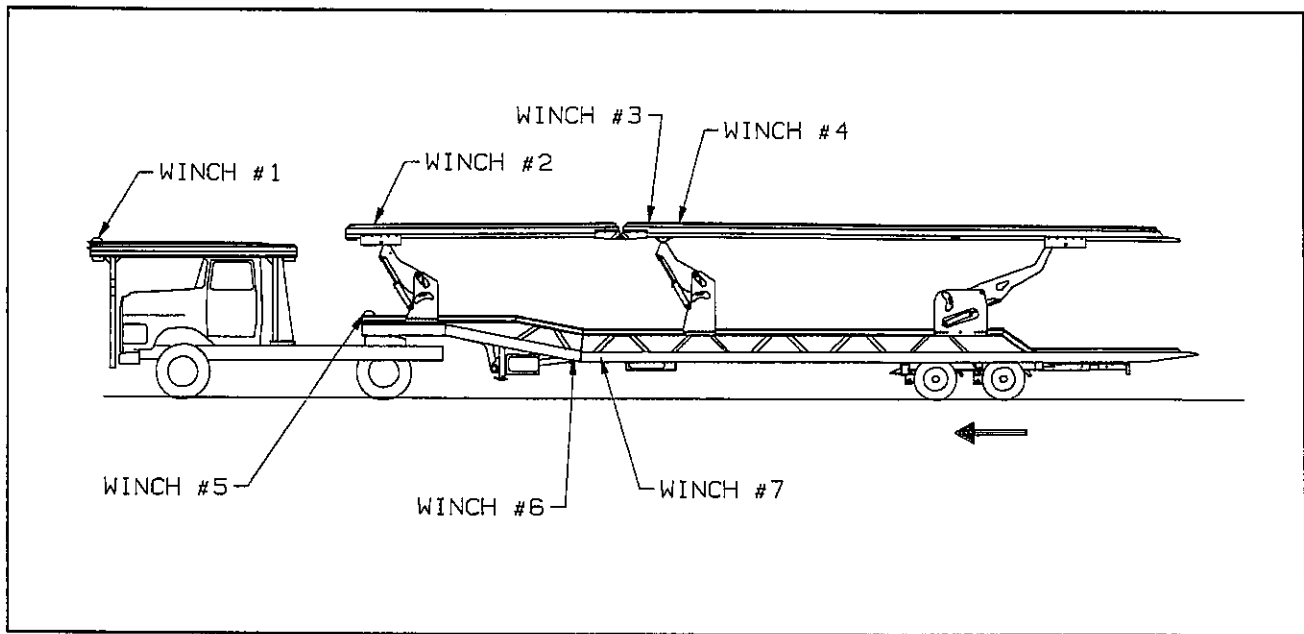
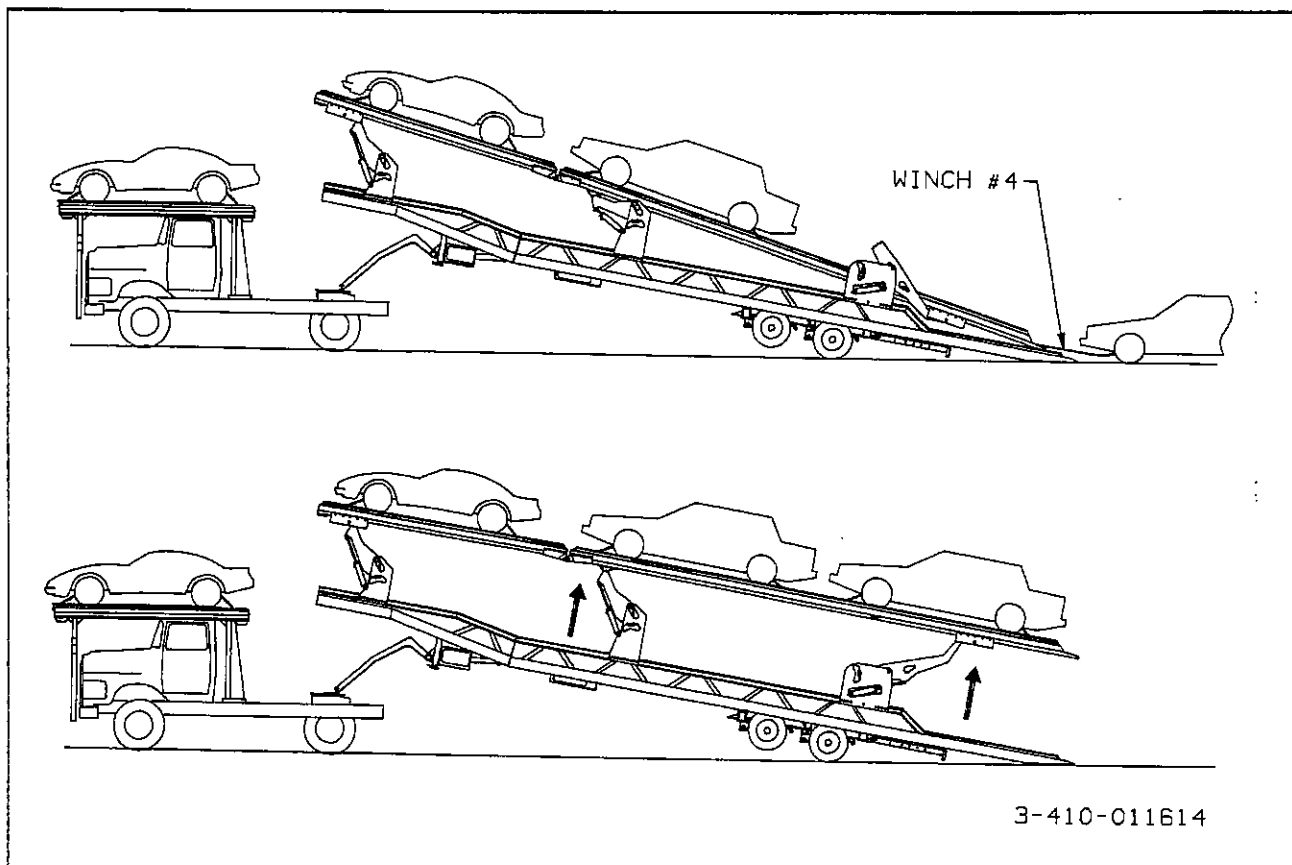

Figure 3-6 Preparation for Loading
Figure 3-10 Loading the Upper Deck
- a. Park the tractor/trailer in a straight line on a level even surface. Set the tractor brakes and release the semitrailer brakes. (See Figure 3-6.)
h. Prepare the first vehicle to be winched onto the trailer. Connect winch #2 (see Figure 3-6) to the first vehicle and pull it to the front of the upper deck. Secure the vehicle so it will not roll forward or backward.
- f. Connect winch #2 (see Figure 3-6) to the next vehicle and pull it to the front of the upper deck. Make
g. Free-wheel the winch cable from winch #4 (see Figure 3-6) out until it is at the rear of the upper deck so it is accessible after loading the next vehicle.
h. Connect winch #3 (see Figure 3-6) to the next vehicle and pull it to the center position on the upper deck. Secure with chains (see paragraph 3-11.7).
i. Connect winch #4 (see Figure 3-6) to the next vehicle and pull it to the rear position on the upper deck. (See Figure 3-10.) Secure with chains (see paragraph 3-11.7).
c. Connect winch #5 (see Figure 3-6) to the next vehicle and pull it to the front of the lower deck as far as
d. Free-wheel the winch cable from winch #7 (see Figure 3-6) out until it is at the rear of the lower deck so it is accessible after loading the next vehicle.
e. Connect winch #6 (see Figure 3-6) to the next vehicle and pull it to the center position on the lower deck. Secure with chains (see paragraph 3-11.7).
f. Connect winch #7 (see Figure 3-6) to the next vehicle and pull it to the rear position on the lower deck. Secure with chains (see paragraph 3-11.7).
h. Reel out winch #1 (see **Figure 3-6**) to allow the vehicle to move off of the Over-the-cab deck and onto the trailer upper deck.
i. After the vehicle is completely on the trailer bed, secure the vehicle so winch #1 (see **Figure 3-6**) can be disconnected and winch #2 (see **Figure 3-6**) can be connected to the vehicle.